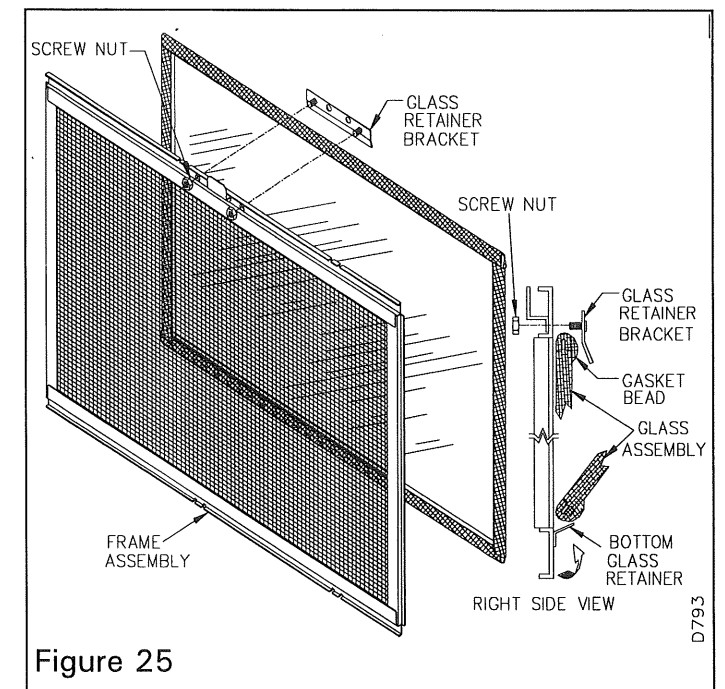

Figure 25
3. Remove glass assembly retainer bracket by removing two screw nuts located at the top of the glass door frame (see Figure 25). Carefully lean glass away from the frame and remove for cleaning or replacement. When cleaning the glass, **DO NOT** remove the gasket.